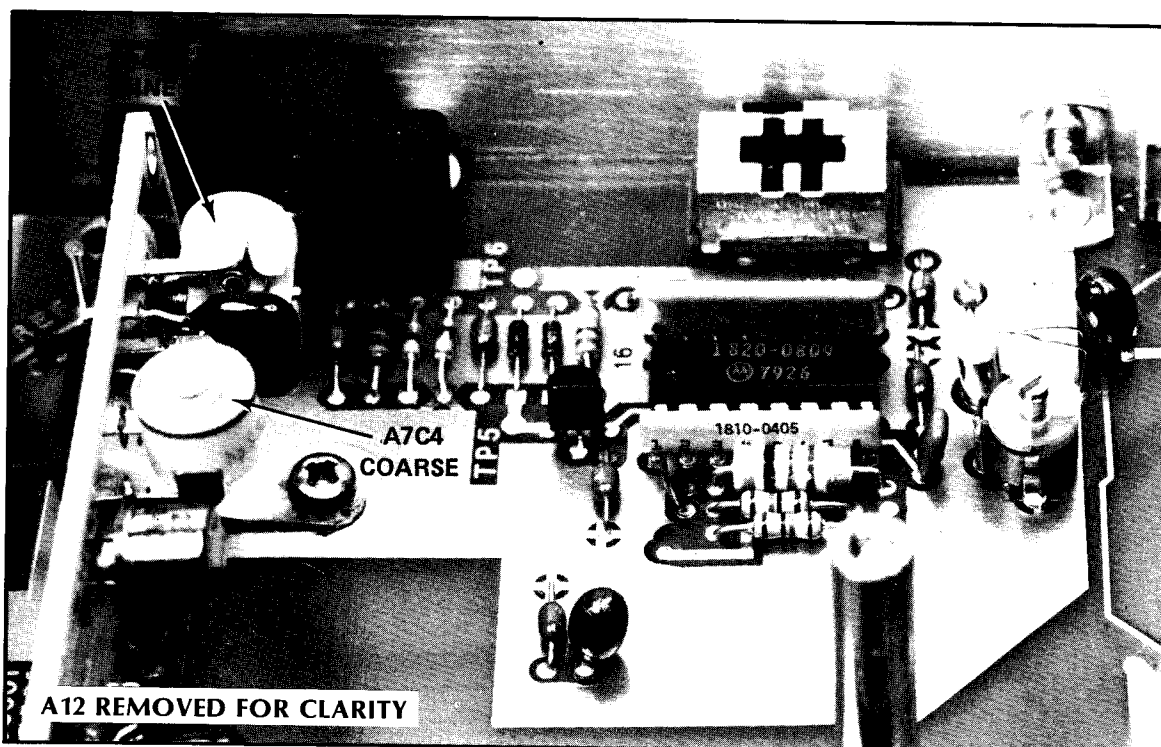

Figure 5-6. Internal Time Base Adjustment Location
- 5-21. The following adjustment sets the frequency of the standard internal time base (see Figure 5-6).